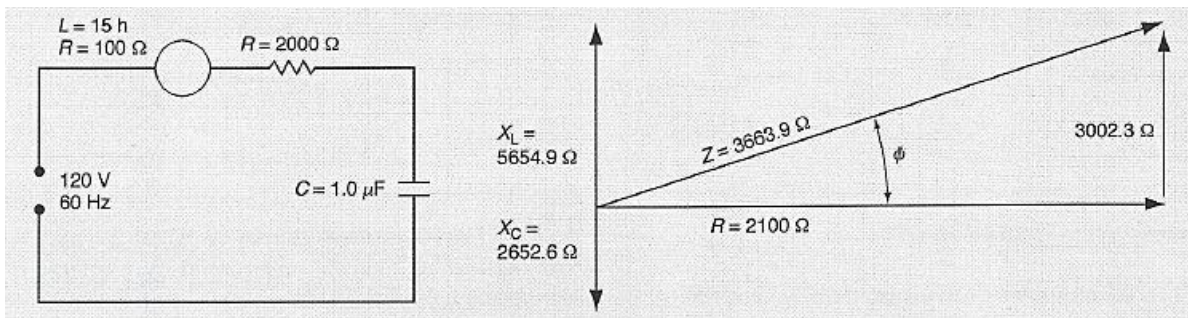

Figure 5.4: Series AC Circuit and Vector Diagram
- 5-14 As an example, suppose you need to find the phase angle for the circuit shown in Figure 5.4. The vector diagram is the basis for the calculation. You can see from the vector diagram that the phase angle is positive, because the inductive reactance is greater than the capacitive reactance. Their vector sum is positive.